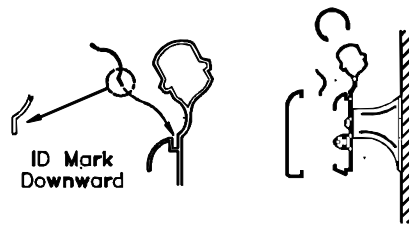

Fig 8
- Step 11:** Place accent strip in finger groove of rail, ID mark down, see **fig. 8**. Snap on upper vinyl handrail cover and then snap on the loweranyl bumper guard.